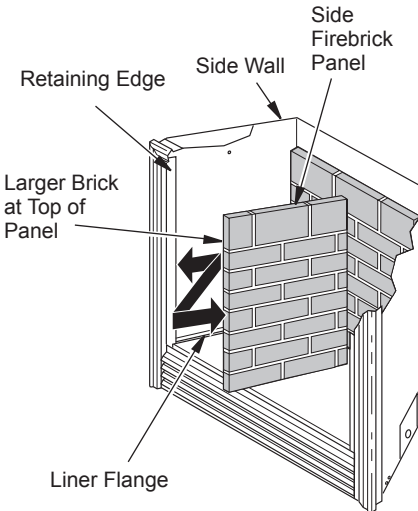

Figure 4 - Placing Side Firebrick Panel Behind Retaining Edge
- Slide one side firebrick panel behind the retaining edge of fireplace. Standard brick panel has larger bricks at the top while the Herringbone panel has smaller bricks at the top. Gently press the firebrick panel back against the side wall (see Figure 4). The bottom edge of the firebrick panel will rest on liner flange and against back panel.